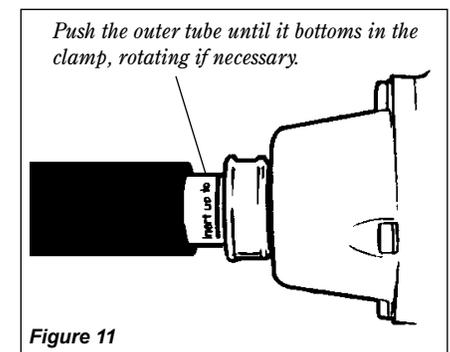

Figure 11
2. Slide the outer tube into the tube clamp until the outer tube bottoms. It should go in about 1-1/2 in. (38 mm). If the outer tube stops before bottoming, rotate it until you feel the inner mainshaft (driveshaft) splines engage the powerhead. Then push the outer tube all the way in. See Figure 11